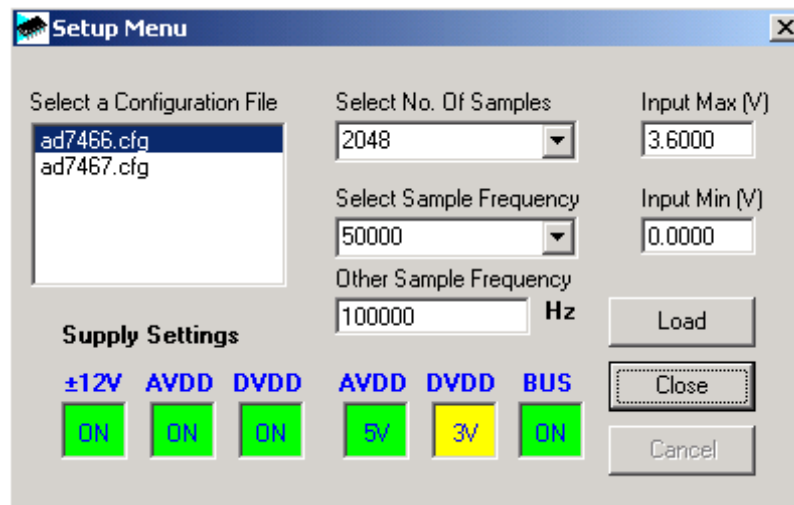

Figure 3. The Setup Menu
For the AD7466 evaluation board and EVAL-CONTROL-BRD2 to communicate with the software, the required configuration files must be loaded from the **Setup Menu** (see Figure 3).
2. Open the **File** menu and select **Setup**. This displays the setup menu dialog box (see Figure 3).
- **Setup Menu.** Selecting this option displays the Setup Menu. See Figure 3 and the Configuring the Boards section for a detailed description of this menu.